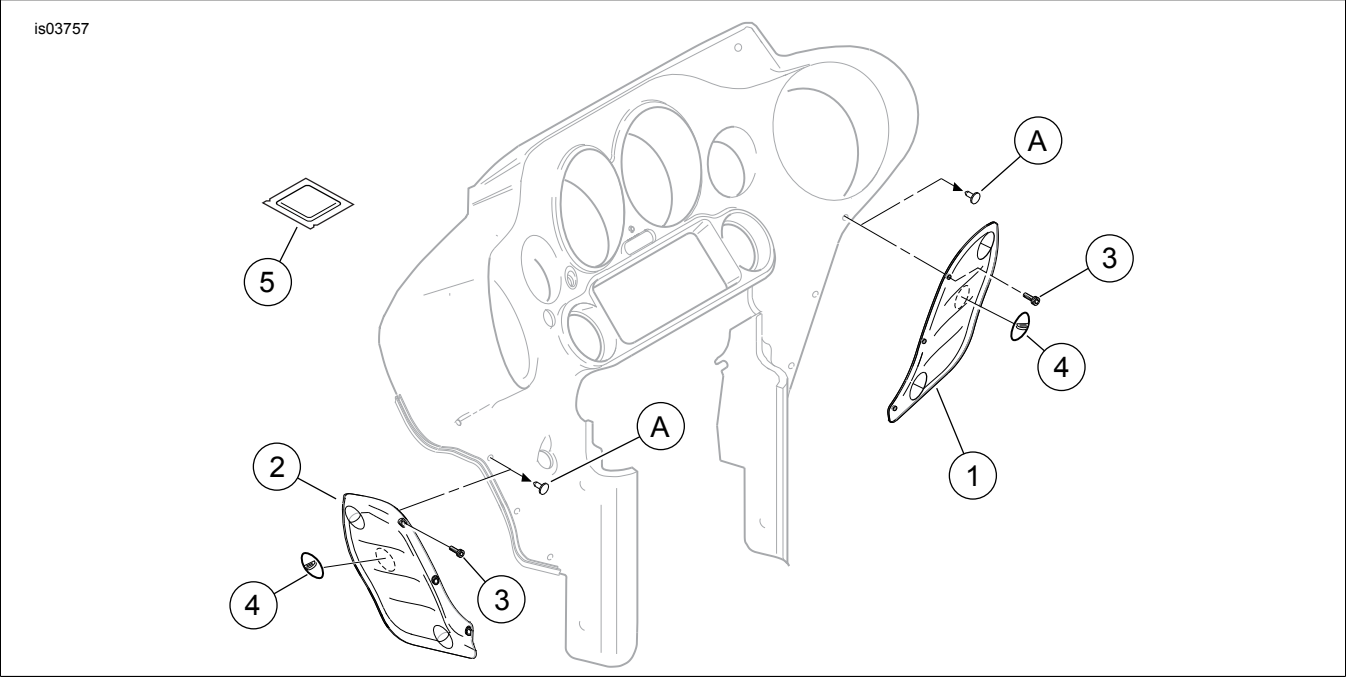

Figure 2. Service Parts, Adjustable Air Deflector Kit
See Figure 2 and Table 1.
1. See Figure 2. Obtain the two air deflectors (1 and 2) and two thumb tabs (4) from the kit. Position one air deflector so the three hinge mounting Phillips screw heads at the bottom of the deflector are facing you.
1. See Figure 2. **Models with NO air deflectors installed:** Remove and discard the six hole plugs (A) from the right and left edges of the inner fairing assembly. **Models WITH air deflectors currently installed:** Remove and discard the six screws that retain the right and left air deflectors. Remove and discard the deflectors.
2. Select a right-side (1) or left-side (2) air deflector, and three thumb screws (3) from the kit. Determine the correct side by holding the mounting-hole side of the deflector against the fairing. The thumb tab is accessible from the rider position. The three hinge mounting screws will be visible only from the rider position, and not from the front of the vehicle.